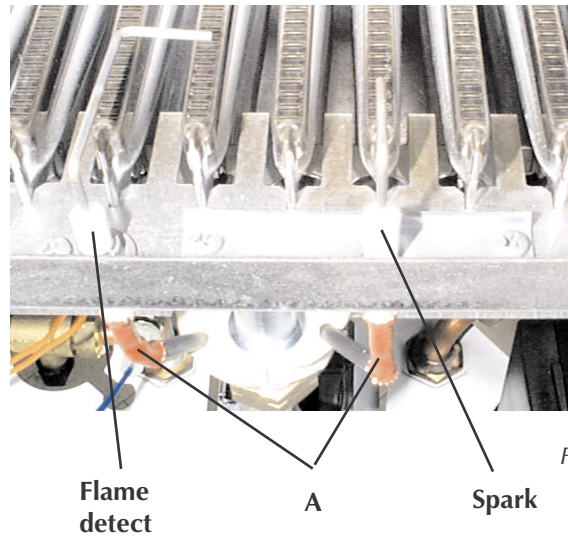

Fig. 34
## 7.12 Spark or flame detect electrode (fig. 34)
- Identify electrode from fig. 34